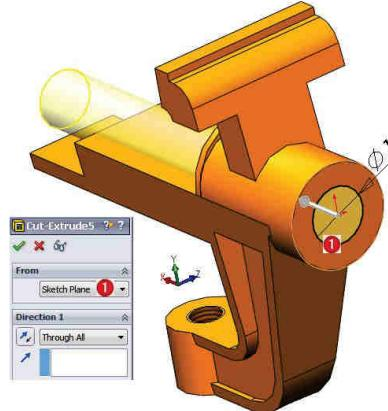

Fig. 2.15
**24 Trasare cerc decupare  $\phi 14.2$ :** Comanda Sketch – Fig. 2.15 – plan ①.
**25 Extrudare cerc decupare  $\phi 14.2$ :** comanda Extruded Cut  - Fig. 2.15 - Through All / .
**24 Sketching of the  $\phi 14.2$  cut circle:** The Sketch command – Fig. 2.15 – plane ①.
**25 Extrudation of the  $\phi 14.2$  cut circle:** the Extruded Cut  command - Fig. 2.15 – Through All / .